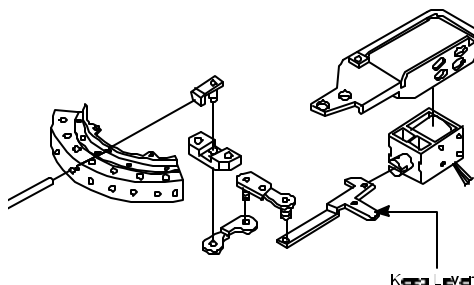

Figure 1
2. **Disengage** Thread Keep Lever. *See Figure 1.*